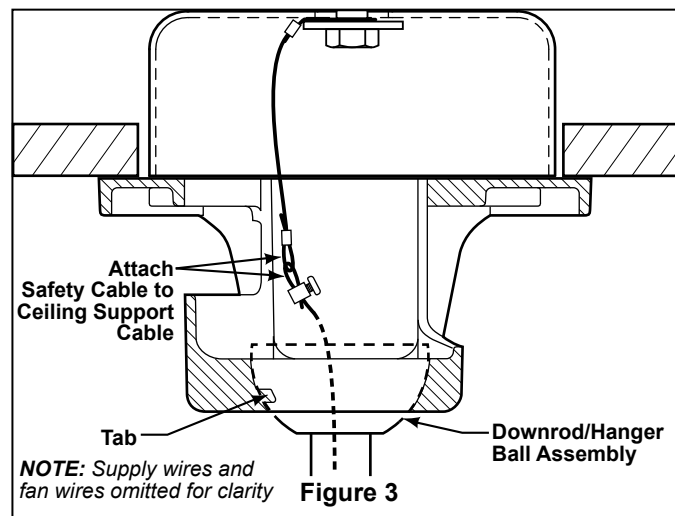

Figure 3
6. Route wires through Motor Coupling Cover and Canopy. Position Canopy on fan shown with open side facing up. (Figure 3)
7. Reinstall the Hanger Ball (Figure 3) on the Down rod as follows. Route the three 80" wires through the Hanger Ball. Position the Pin through the two holes in the Down rod and align the Hanger Ball so the Pin is captured in the groove in the top of the Hanger Ball. Pull the Hanger Ball up tight against the pin. **Securely tighten the setscrew in the Hanger Ball. A loose setscrew could create fan wobble.**
4. Carefully lift the fan and seat the downrod/hanger ball assembly on the hanger bracket that was just attached to the ceiling joist. Be sure the groove in the ball is lined up with tab on the hanger bracket. (Figure 3)
5. Attach the safety cable to ceiling support cable. Slide cable clamp onto safety cable (from fan). Place the end of cable through the loop of ceiling support cable. Pull as much cable through loop as possible. Feed end of cable into clamp hole and firmly tighten screw (Figure 3). Cut off excess safety cable.